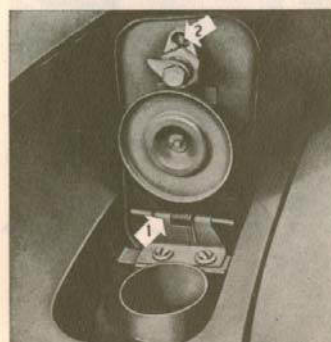

Fig. 12-17. Gasoline filling cap
5. Gasoline filling cap, see Fig. 12-17.